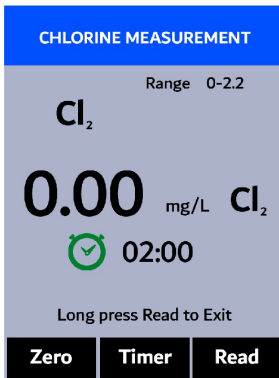

Figure 38.
3. Press **OK** () to launch the **CHLORINE MEASUREMENT** screen (Figure 38).